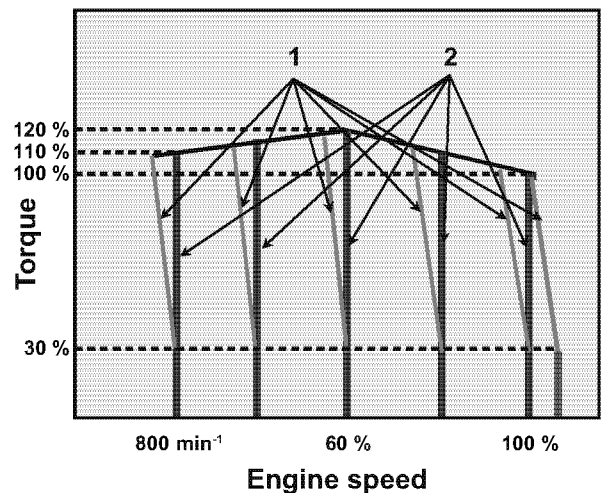

Figure 20
Figure 20 shows typical engine speed curves that outline the relationship between engine speed and load.
The VM series engines for general use are designed so that the engine speed is reduced by a certain percentage from 30 % load to full rated load. See curves (1) in **Figure 20** below. The same percentage droop is maintained at any no-load speed.
The CL series consists of isochronous design engines, the speed of which is kept constant from no load to full rated load. See curves (2) in **Figure 20** below.